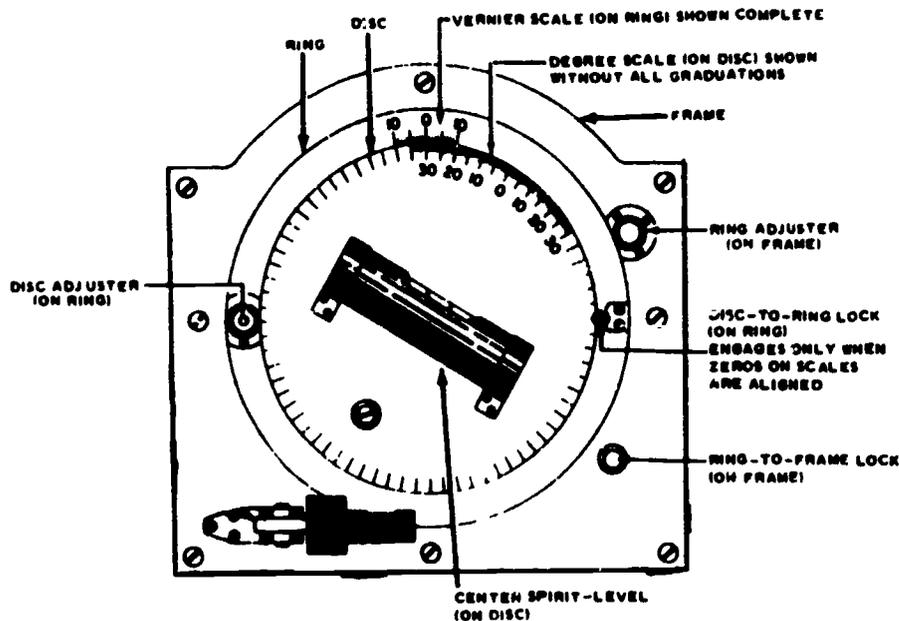

Figure 1.
b. For example, refer to figure 1.
The following is a list of the steps that you will be evaluated on and an explanation of each step (refer to figure 1 for location of parts).